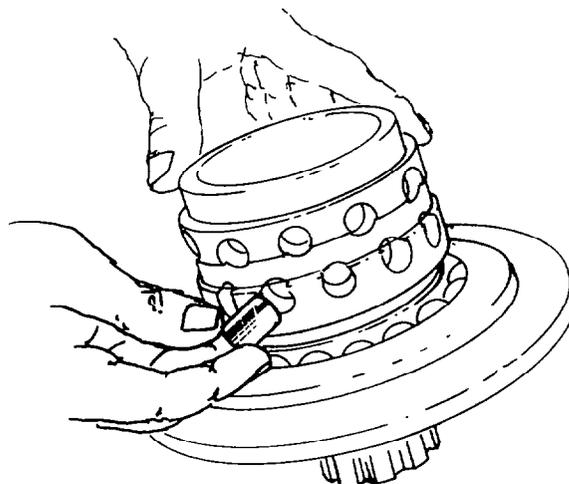

Fig. 301 — Removing Wedges
- d. Remove all the wedges from the driving cage (see fig. 301).